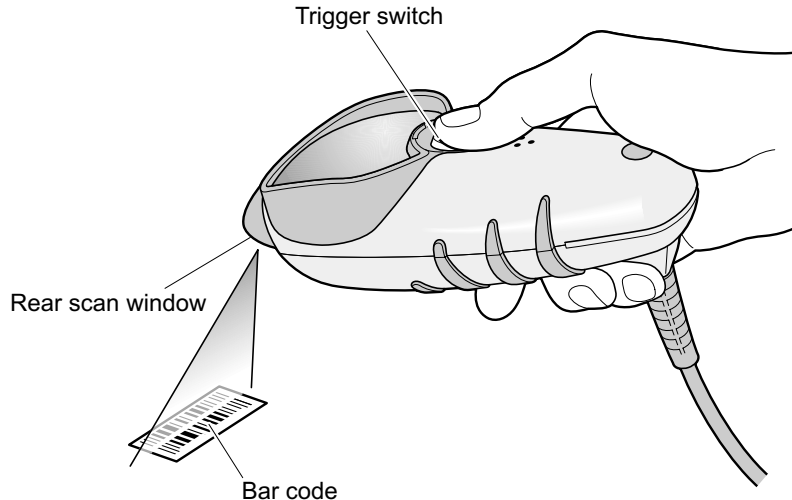

Figure 5-9. Press trigger switch to line scan
- 4** With your thumb, press the trigger switch to scan the bar code as shown in Figure 5-9. When you hear the “good read” tone, release the trigger switch.